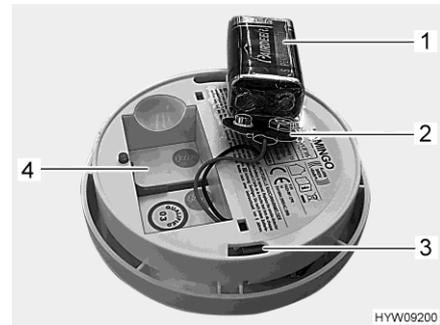

Fig. 119 Smoke alarm (rear side)
- Remove the battery and disconnect it from the battery clip (Fig. 119,2).
- Connect the new battery (Fig. 119,1) at the battery clip (Fig. 119,2). When doing so, make sure that the battery poles engage on the battery clip.
- Place the battery into the battery compartment (Fig. 119,4).
- Place the smoke alarm (Fig. 120,1) onto the holder (Fig. 120,3). The holding lugs (Fig. 120,2) must engage in the openings (Fig. 119,3) in the smoke alarm.